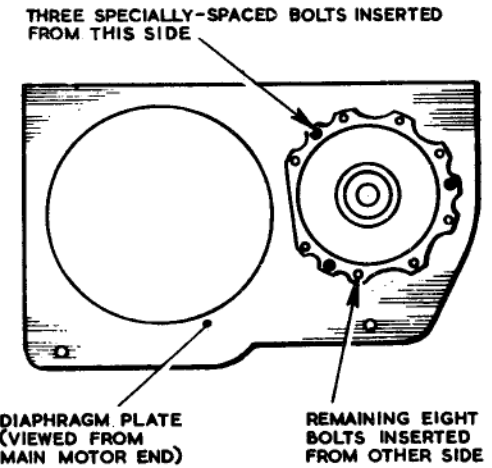

Fig. 18. Auxiliary epicyclic drum assembly detail
- (3) Mount the auxiliary epicyclic drum (41) and the auxiliary output planet carrier (40) on the case diaphragm plate (17), using three bolts (fig. 18). Slide the auxiliary epicyclic input planet carrier (39) into mesh with the drum and the output planets. Slide the snatch clutch housing assembly (37) onto the drum (41), meshing its sun pinion with the input planets and bolt it to the diaphragm plate. Tighten all nuts. Slide the dog clutch (43) on to the serrated shaft of the auxiliary output stage, making sure that it moves freely.
- (4) Fit the ball bearing (8) to butt against the shoulder on the main shaft. Assemble the main shaft locator (3)